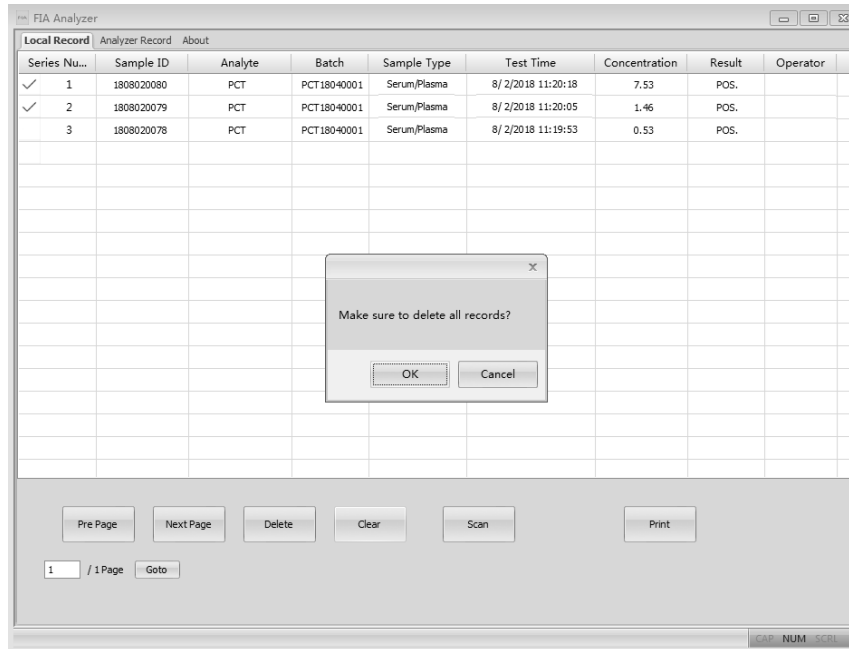

Fig 39
- **“Clear”**: Click **“Clear”** to clear all the records from the system. (Ref Fig 39). You will get a prompt to confirm the operation. Once you click **“OK”**, all the data will be cleared.